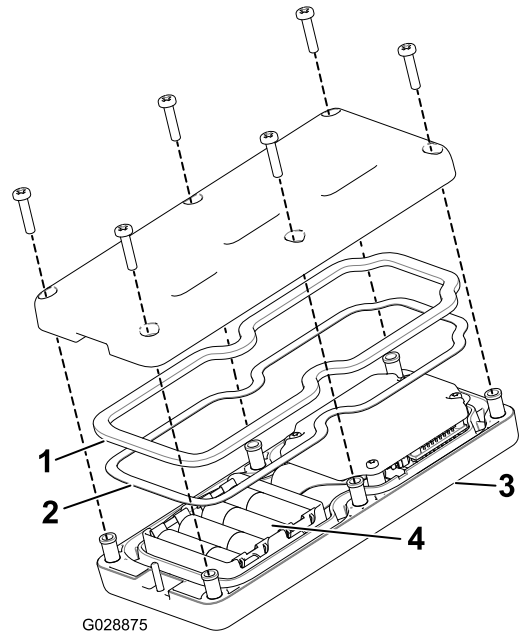

Figure 13
2. Plug each battery into a terminal cradle observing proper polarity. (If the batteries are improperly installed, the unit will not be damaged, but it will fail to operate.) The cradle is embossed with polarity markings for each terminal (Figure 13).
3. Ensure that the steel gasket and rubber seal are seated in the channel in the remote and set the back cover in place (Figure 13).
4. Secure the cover with 6 screws (Figure 13) and torque them to 1.5 to 1.7 N-m (13 to 15 in-lb).